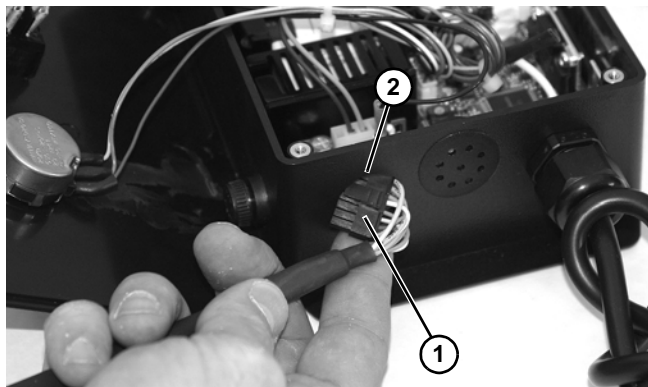

Figure 41
9. Turn connector (**Figure 41, item 1**), as shown, and install wiring and connector through new controller opening (**Figure 41, item 2**).